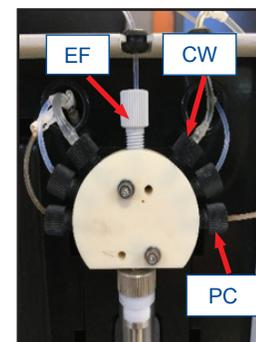

Figure 5.4 ESM Waste, Cup Wash, and Performance Check Tubing Connections to ESM Syringe Pump
Carefully disconnect the CW line from the ESM syringe pump (Figure 5.4) by turning the fitting counterclockwise until it releases. Carefully pull the other end of the CW line off the metal port on the sample cup to which it is attached (Figures 5.5–5.6). Discard the old tubing. Secure the fitting at one end of the new CW line to the syringe pump by turning it clockwise until finger tight. Slide the free end of the new CW tubing securely onto either port on the sample cup.
- ### 5. Replace the Performance Check (PC) Line:
- Carefully disconnect the PC line from the ESM syringe pump (Figure 5.4) by turning the fitting counterclockwise until it releases. Carefully pull the other end of the PC line off the metal port on the sample cup to which it is attached (Figure 5.5). Discard the old tubing. Secure the fitting at one end of the new PC line to the syringe pump by turning it clockwise until finger tight. Slide the free end of the new PC tubing securely onto either port on the sample cup.